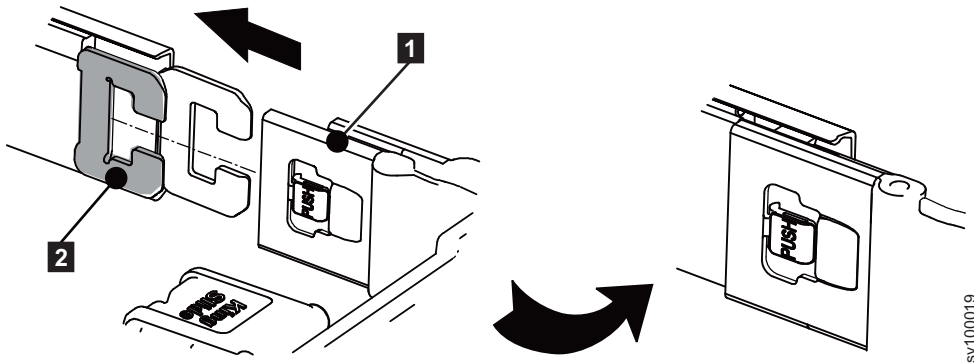

Figure 24. Install the inner member
2. Install the cable-management arm CMA inner connector (1) onto the cable-management arm connector base on the inner member (2) as shown in Figure 24.